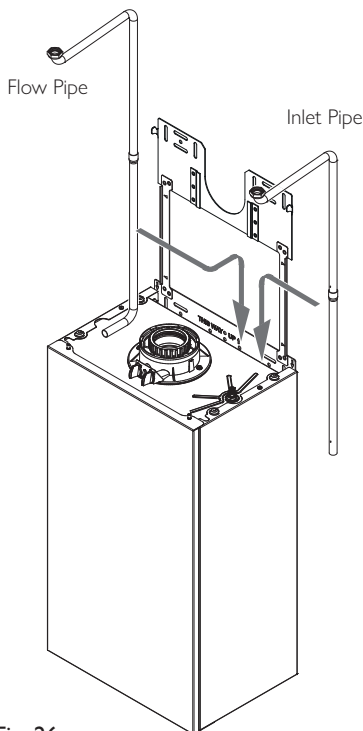

Fig. 26
3. After identifying the FGHR inlet and flow pipes (Fig. 26), manoeuvre them into place behind the boiler.